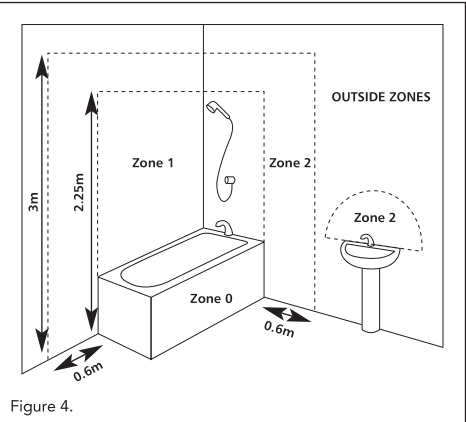

Figure 4.
- The radiator may be positioned in zone 2 (figure 4) of the bathroom, in so far as no operating controls (button, switch, etc.) are in reach of persons in the bath or under the shower.